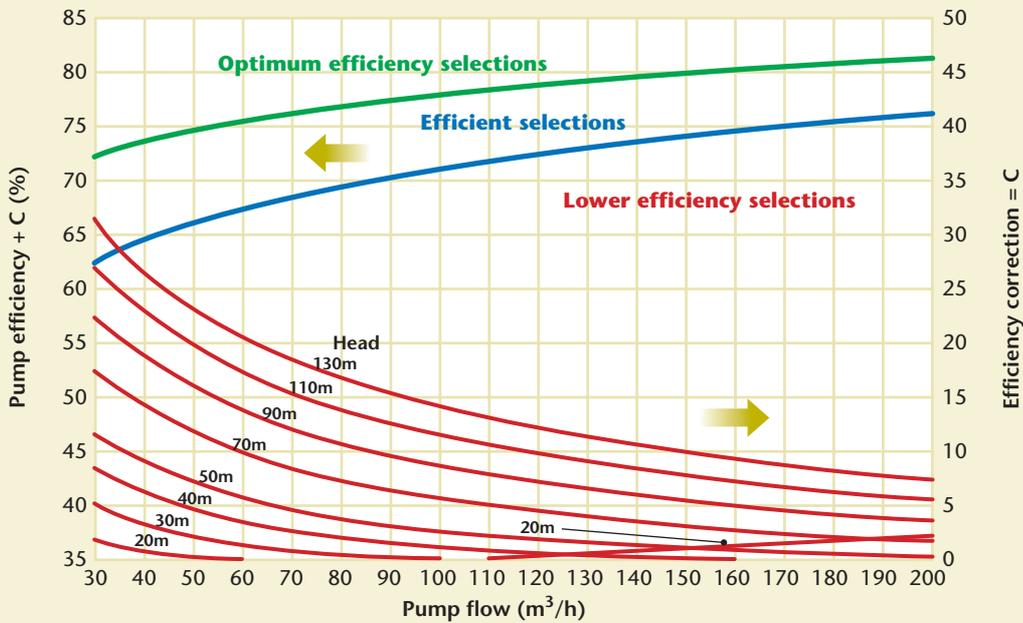

Figure 3: Efficiencies of end suction pumps with their own bearings at 2900 rpm.
Performance curves published in manufacturers' catalogues have been used to produce six plots (Figs 3 to 8). The upper pump efficiency line on each plot shows the 'Catalogue mean of best-efficiency points' at maximum impeller diameter, after correcting for pump head.
5. Enter your chosen flow and head on the plot that suits the quotes (Figs 3 to 8).
Is chosen duty within ranges covered: From Fig 1, yes. From Fig 3: 'C' = 14. Plot on Fig 3: 'Pump Efficiency + C' = 60 + 14 = 74%. Fig 3 suggests that an additional 3 points of efficiency or more is possible.
Correction 'C', as shown on Figs 3 to 8, is based on pump flow, head and speed. It is actually a correction for pump Specific Speed. Pumps of relatively low head and high flow (high Specific Speed) or high head and low flow (low Specific Speed) lose efficiency due to unavoidable secondary hydraulic losses. Within *Ref 2* there is a curve to allow efficiency correction for Specific Speed. This is actually the correction proposed by Anderson (*Ref 3*). Alternative curves to correct for Specific Speed can be derived from *Ref 4* and *Ref 5*.